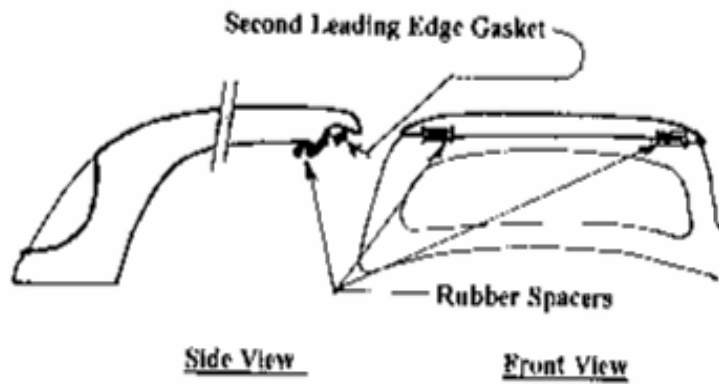

Fig. 4: Spacers for Aligning Hardtop
4. Check the alignment of the top around the rear windows. This fit varies from car to car. If necessary, reposition the top to the rear using the supplied rubber spacers see (Fig. 4). Additional shims may be required were the top meets the car body (inside the drain rail base).